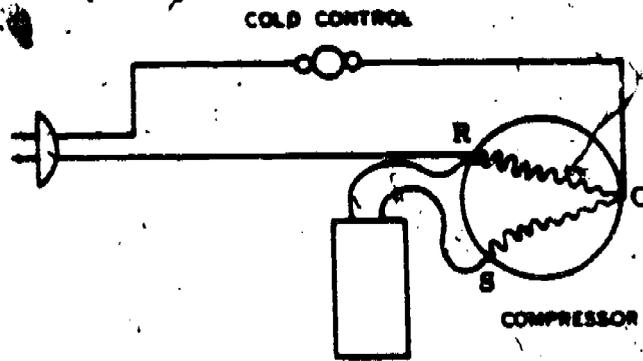

Figure 7. Wiring Diagram of PSC Compressor
**COMPRESSORS.** Most of the window units use the hermetic style compressor and have potential starting relays. However, many window units use a permanent split capacitor (PSC) compressor. (see figure 7). A PSC compressor has two main advantages.